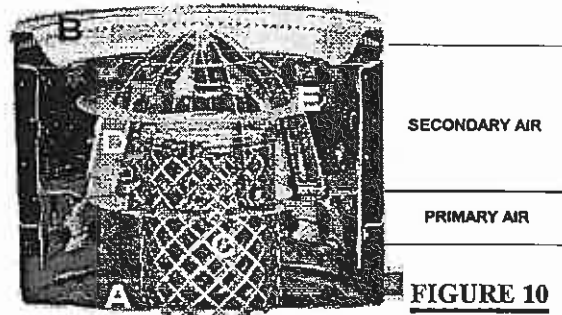

FIGURE 10
1. Through the open door, remove the catalyser components (items C, D and E, figure 10) from the burner.
Light with a long taper or wadded piece of paper. Immediately replace the catalyser components. FIGURE 10. Ensure that the top is centred.
Remove all three catalyser components. **FIGURE 10.** Remove any carbon residue and remaining oil from the burner using a slightly damp cloth. Buff dry before reinstalling.